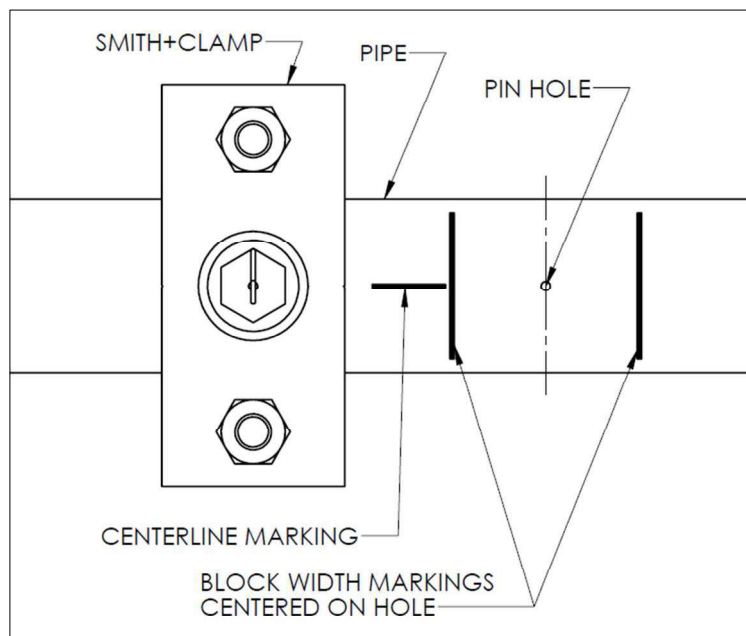

Figure 3
4. To assist with the alignment of the PLIDCO Smith+Clamp, it can be helpful to mark the location of the hole relative to the center of the seal cone by using a grease pen as shown in Figure 3. Mark a horizontal line longitudinally down the center of the pipe, and 2 vertical lines centered around the hole that are the same width apart as the PLIDCO Smith+Clamp.